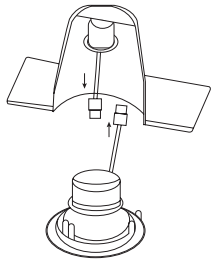

Figure 2.2
6. Plug male end of orange connector on LED Retrofit Trim into the female end of orange connector on screw base adapter (Fig 2.2 and 2.3).